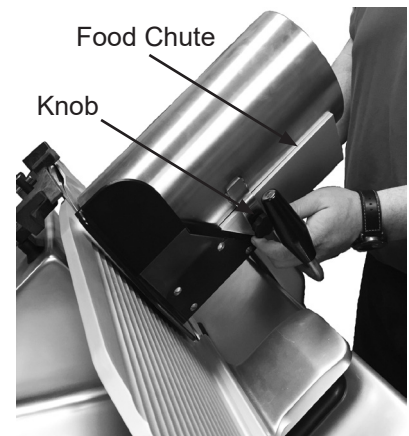

Figure 6-1.
2. Loosen two knobs that secure vegetable hopper to food chute (Figure 6-1).